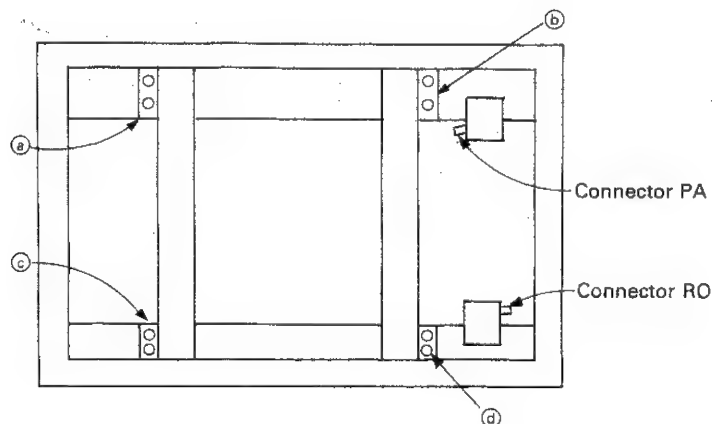
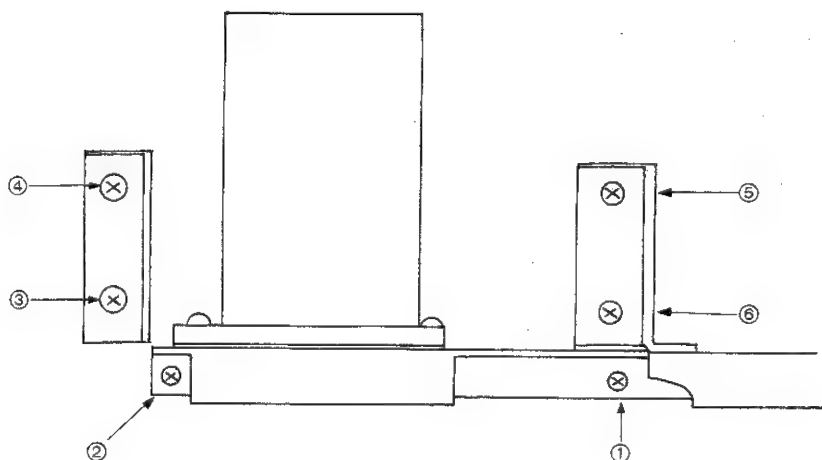

Figure 33 Rotational Mechanism Unit with Rear Cover Removed
Figure 34 Rear View of Rotational Mechanism Unit (at Right Side)
- (4) Disconnect the relay connector which is used to connect the plunger leads coming from the rotational mechanism units (right and left) to the main PWB, and then the connectors RE and FF which are used to connect the motor leads to the main PWB. And remove the leads from the lead holders and leave them near the right and/or rotational mechanism unit.
- (5) Remove eight screws, two each at the places (a), (b), (c) and (d), shown in Fig. 33.
- (6) Remove the screws which have temporarily fixed the writing sheet board, and detach the writing sheet board from the main body. At the time, be careful not to allow the leads of the rotational mechanism unit to be entwined between the main body and writing sheet board.
- (7) Remove the screws ①, ②, ③, ④, ⑤ and ⑥ shown in Fig. 34 from the rotational mechanism unit (at right side), and detach the rotational mechanism unit from the writing sheet board. The same procedures apply to removal of the left rotational mechanism unit.
- (1) Referring to the assembly drawing of the rotational mechanism unit shown in Fig. 34, align the screw holes of the rotational mechanism unit with those of the writing sheet board. Then temporarily fix the screw ①; this screw is used as a datum screw to decide the accuracy of the rotational mechanism unit.
- (2) Also referring to Fig. 34, temporarily fix the screw ② which is used to decide the accuracy in the vertical direction and secure the screw ① completely. Then secure the screw ② firmly and fix the screws ③, ④, ⑤ and ⑥ in this order.
- (3) The same procedures apply to reassembly of the left rotational mechanism unit.
- (4) Attach the writing sheet board, with the rotational mechanism unit secured on it, to the main body and temporarily fix the two screws at the center of the board, one each at the upper and lower parts. (At the time, be careful not to allow the leads of the rotational mechanism unit to be entwined between the rotational mechanism board and main body.)
- (5) Referring to Fig. 33 secure the screws at the places a, b, c and d.
- (6) Connect the plunger lead (coming from the rotational mechanism unit) to the relay connector and the leads (coming from the motor) to the connectors RE and FF at the main PWB. Arrange the leads using the lead holders.
- (7) Remove the two screws which have temporarily fixed the writing sheet board and attach the writing sheet to the board according to the instruction in "Attachment of Writing Sheet".
- (8) Attach the rear cover, printer, paper guide and paper tray in this order to the main body. Thus, replacement of the rotational mechanism unit is completed.